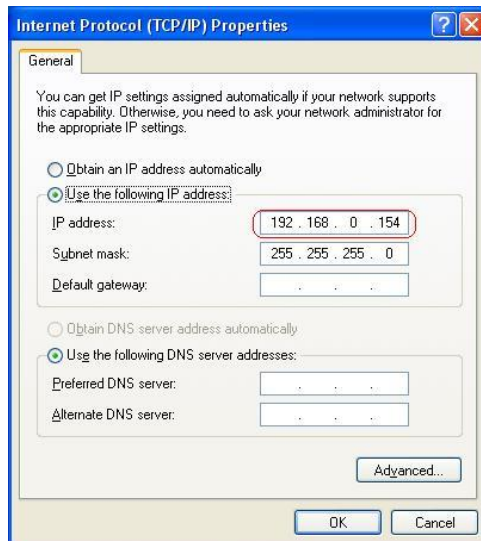

Figure 10-1
4. Give the GV-ASManager a fixed IP address that is NOT used by another device. See Figure 10-1.